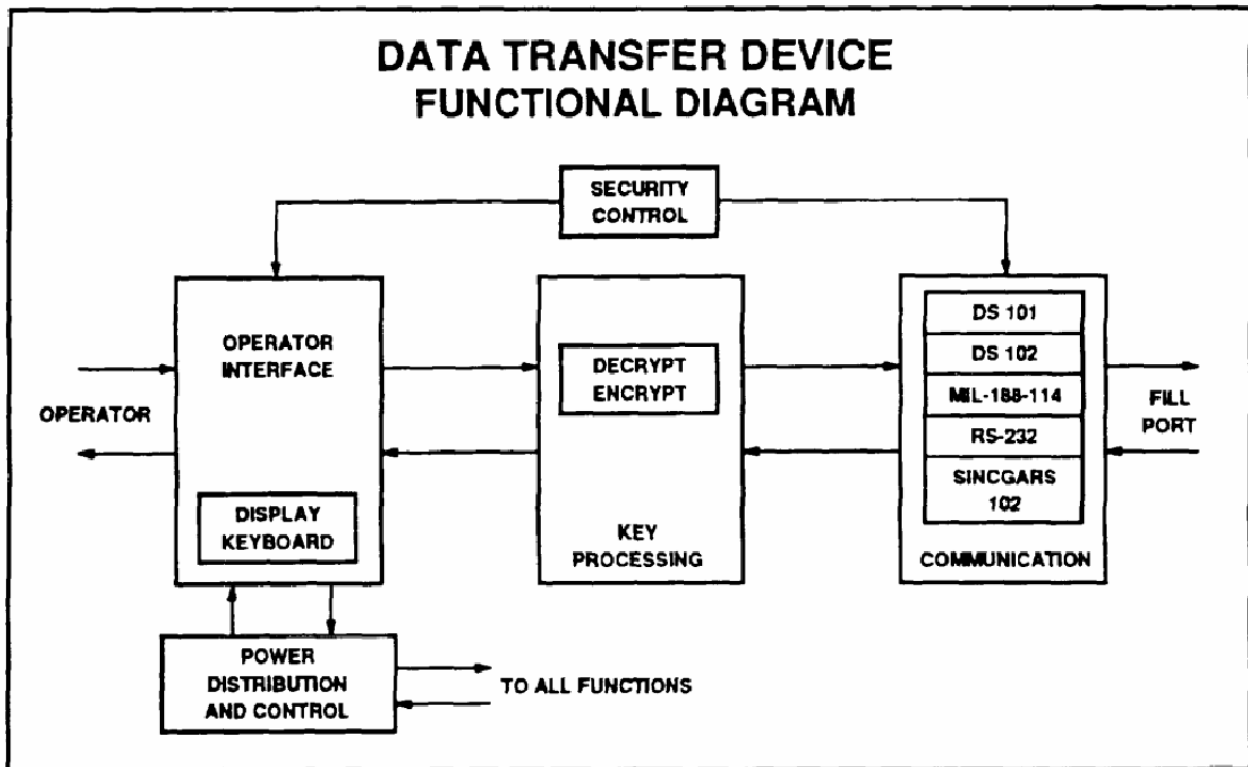

Figure 1-3. ANCD Subsystem, Simplified Block Diagram
- b. Block diagrams for the ANCD subsystems can be seen at Figure 1-3.